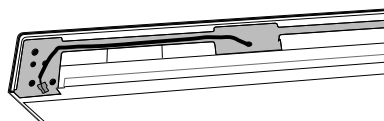

Figure 7
- 9 Move reed switch harness from left to right side of the cabinet (see Figures 7 & 8). Ensure harness is seated into channel.